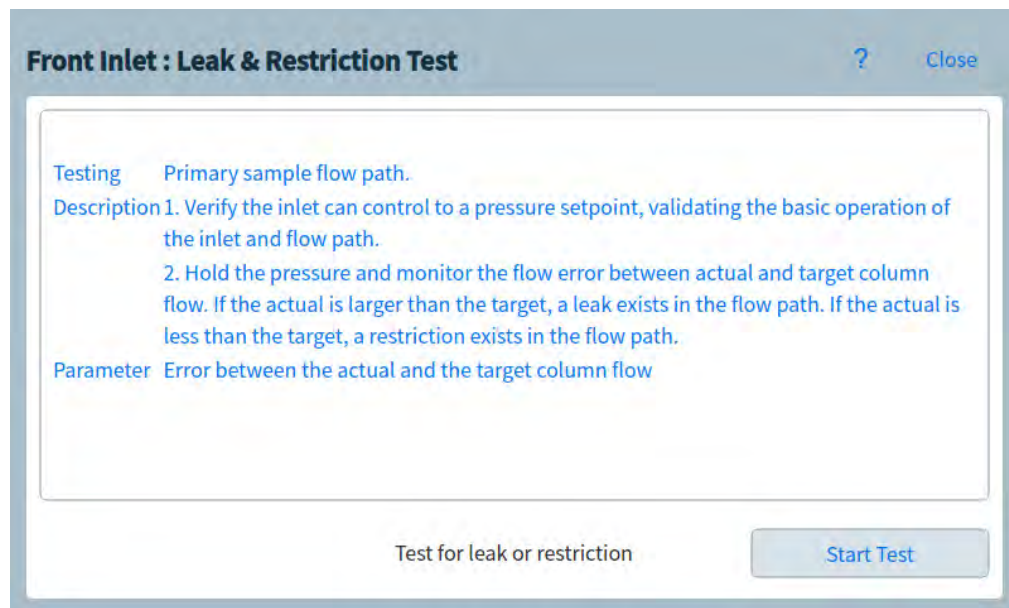

Figure 30. Leak & Restriction Test page
- 2 Select the desired test. The corresponding test page appears. The test page includes a test description and an indication of the parameter being tested. See **Figure 30**.